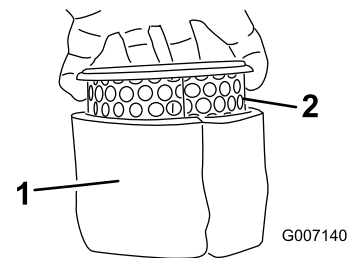

Figure 54
6. Carefully slide the foam filter off of the paper filter (Figure 54).
1. Carefully slide the foam pre-filter onto the paper filter (Figure 54).